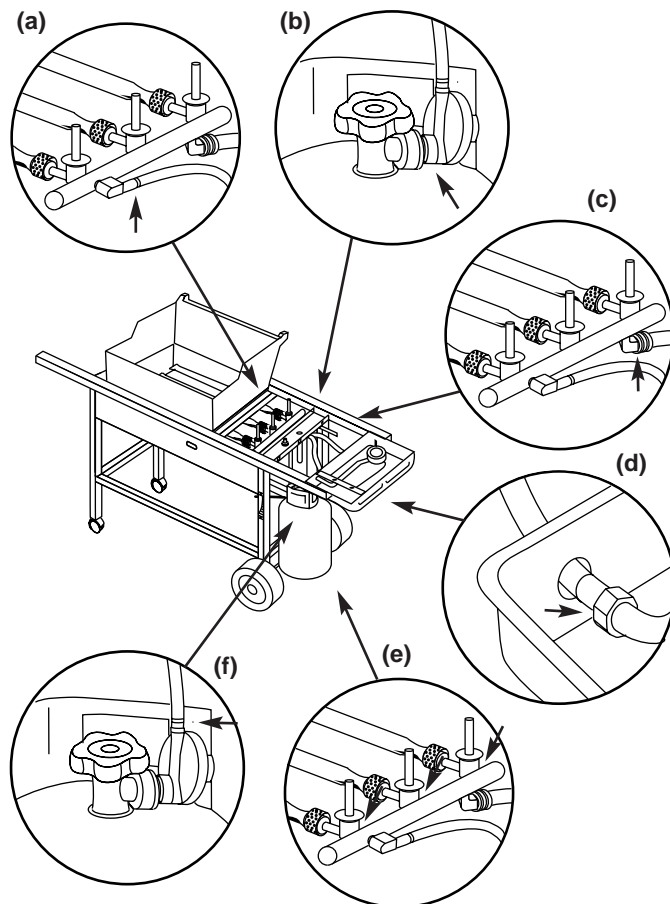

Figure 21
- a) Hose to manifold connection. Figure 21 (a).
- b) Regulator to tank connection. Figure 21 (b).
- c) Manifold to side burner hose connection. Figure 21 (c).
- d) Side burner hose to side burner connection. Figure 21 (d).
- e) Valves to manifold connections. Figure 21 (e).
- f) Hose to regulator connection. Figure 21 (f).